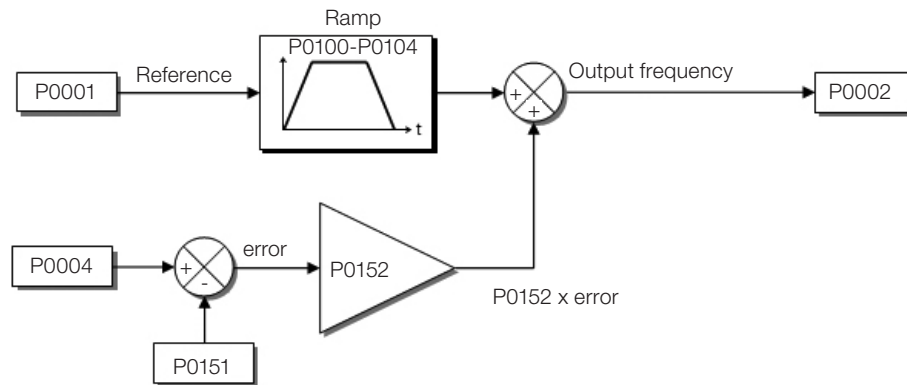
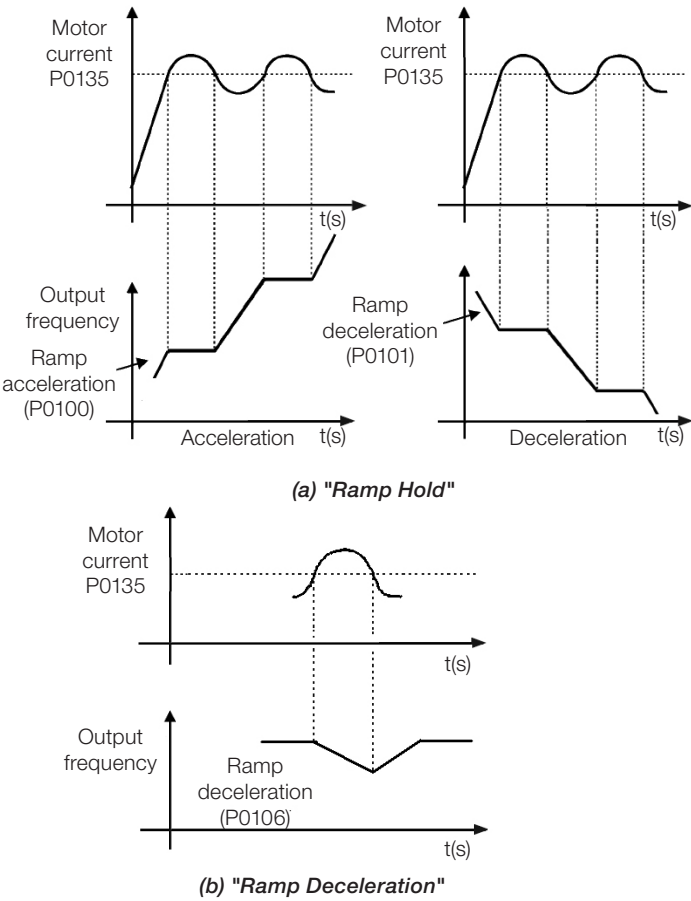

Figure 9.8: Block diagram of DC Link voltage limitation – Accelerate Ramp
Figure 9.10: (a) and (b) Actuation modes of Current Limitation via P0135
- Actuation: the DC Link voltage is measured (P0004) and compared to the value set in P0151; the difference between those signals (error) is multiplied by the proportional gain (P0152); the result is then added to the ramp output, as per Figure 9.8 on page 9-11 and Figure 9.10 on page 9-12.
- Actuation: if the motor current exceeds the value set in P0135 during acceleration or deceleration, the speed will not be incremented (acceleration) or decremented (deceleration). When the motor current reaches a value below P0135, the motor accelerates or decelerates again. Refer to Figure 9.10 on page 9-12.
- Actuation: if the motor current exceeds the value set in P0135, a null value is forced for the speed ramp input forcing the motor deceleration. When the motor current reaches a value below P0135, the motor accelerates again. Look at Figure 9.10 on page 9-12.
Current level to activate the current limitation for the Ramp Hold and Decelerate Ramp modes, as per Figure 9.10 on page 9-12, respectively.